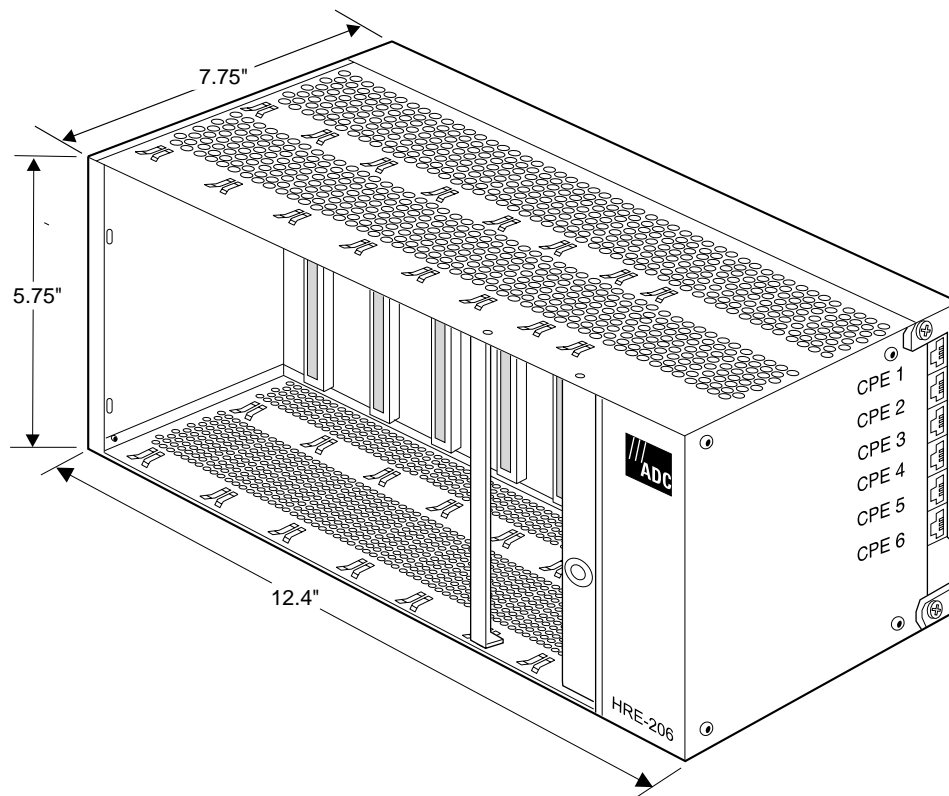

Figure 5. Chassis Assembly
- 1 Loosen the HEX security nut on the front cover (Figure 5) with a $\frac{3}{8}$ -inch CAN wrench.
- 1 Loosen the 216 HEX security nut on the front cover (Figure 5 on page 5) with a $\frac{3}{8}$ -inch CAN wrench.